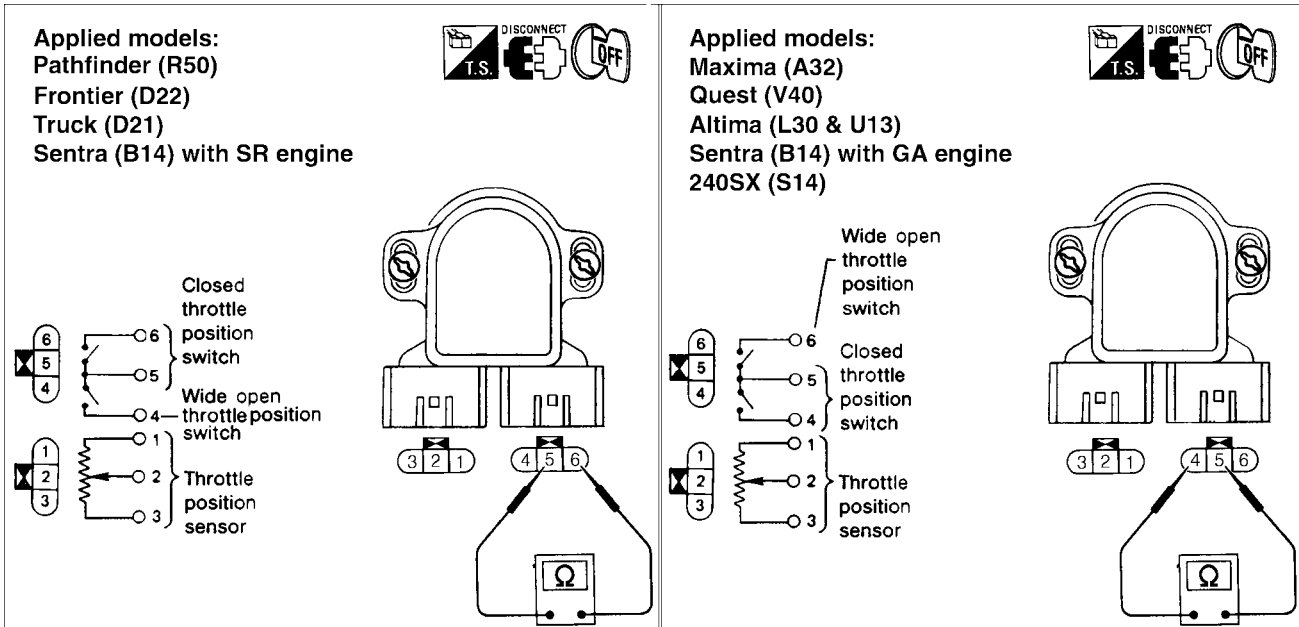

Figure 2
- Refer to Figure 2 that applies to your model.